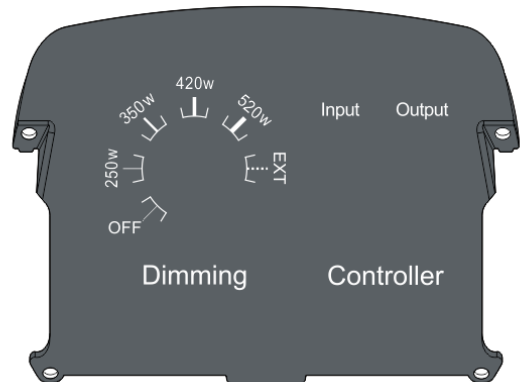

Fig. 7
- ✓ 250W / 350W / 420W / 520W: Dimming level (@520W , see Fig. 7).